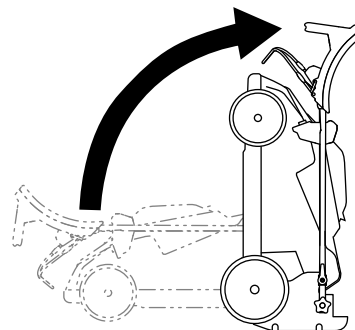

Figure 20
5. Lift the front of the machine by the handle and move it into a storage space (Figure 20).